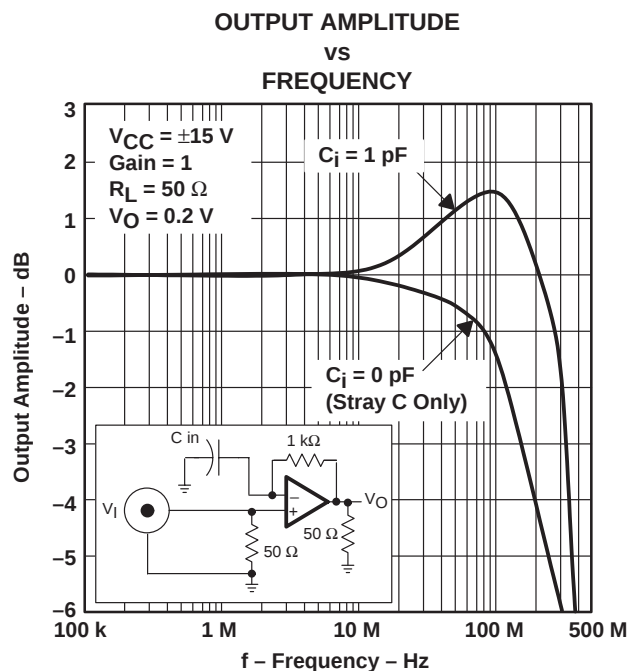
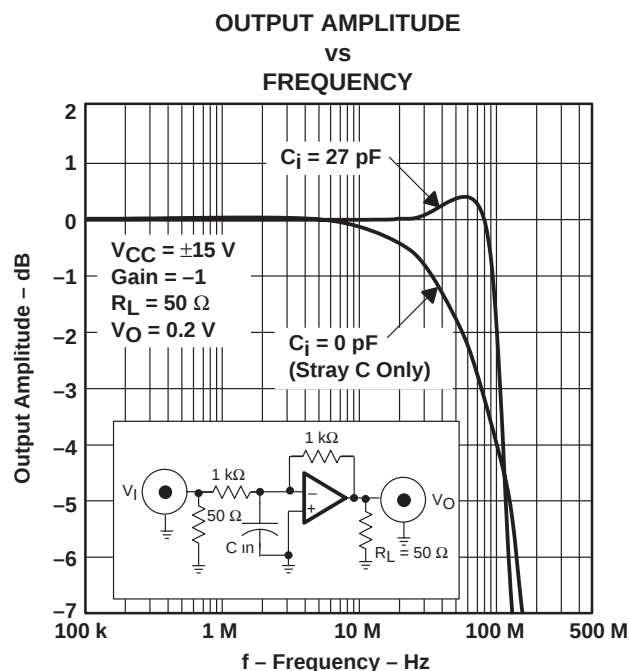

Figure 56
Figure 57
- **Input stray capacitance** – To minimize potential problems with amplifier oscillation, the capacitance at the inverting input of the amplifiers must be kept to a minimum. To do this, PCB trace runs to the inverting input must be as short as possible, the ground plane must be removed under any etch runs connected to the inverting input, and external components should be placed as close as possible to the inverting input. This is especially true in the noninverting configuration. An example of this can be seen in Figure 56, which shows what happens when a 1.0 pF capacitor is added to the inverting input terminal in the noninverting configuration. The bandwidth increases dramatically at the expense of peaking. This is because some of the error current is flowing through the stray capacitor instead of the inverting node of the amplifier. While the device is in the inverting mode, stray capacitance at the inverting input has a minimal effect. This is because the inverting node is at a virtual ground and the voltage does not fluctuate nearly as much as in the noninverting configuration. This can be seen in Figure 57, where a 27-pF capacitor adds only 0.5 dB of peaking. In general, as the gain of the system increases, the output peaking due to this capacitor decreases. While this can initially appear to be a faster and better system, overshoot and ringing are more likely to occur under fast transient conditions. So, proper analysis of adding a capacitor to the inverting input node should always be performed for stable operation.